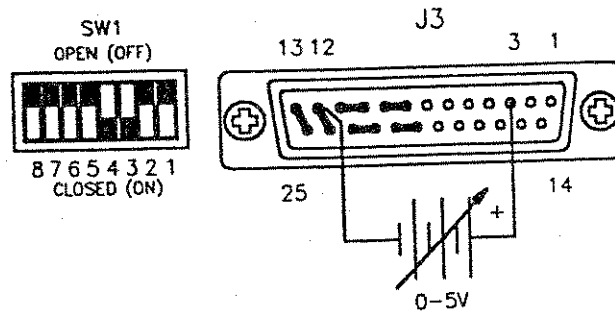

Figure 4.4-1 Remote Programming of OVP with a 0-5Vdc External Voltage Source
1. Ensure the power supply is turned OFF and that both the AC power source and the load are disconnected. Allow five (5) minutes to elapse to dissipate stored energy before resetting switches or making connections. Refer to Section 4.2 for instructions for removing the cover and resetting switches or making J3 connections.
2. Set the power supply's internal switch SW1-7 OPEN. Ensure switch SW1-6 is set to OPEN for 0-5Vdc OVP programming (factory default setting) or set it to CLOSED for 0-10Vdc OVP programming. See Figures 4.4-1 and 4.4-2.
3. Connect the external voltage source between pin 3 (positive) and pin 12 (return) on the J3 connector on the rear panel. See Figures 4.4-1 and 4.4-2. The use of shielded-twisted pair wiring is recommended. Ground the shield to J3 connector pin 6 or to the chassis using one of the J3 connector screws.